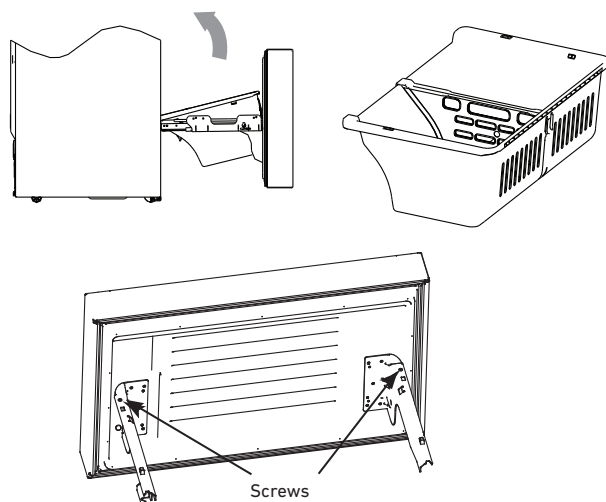

Figure 9
- 5) Remove the screws on the left and right side rails with a screwdriver and have a second person hold the freezer drawer for support. See Figure 9.